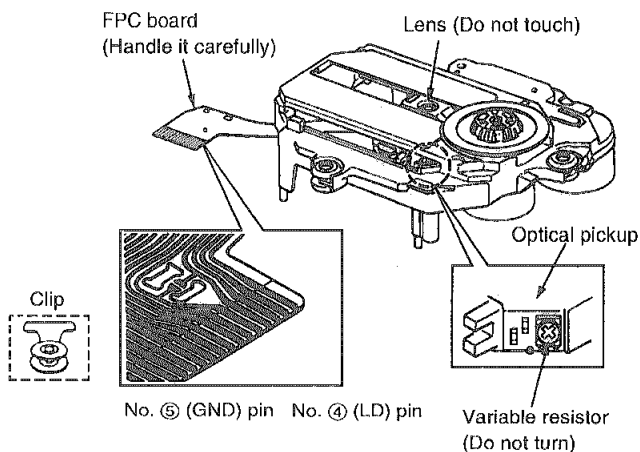

Fig. 4-1.
2. To protect the laser diode against electrostatic breakdown, short the flexible board (FPC board) with a clip or similar object. Refer to Fig. 4-1.
4. Do not turn the variable resistor (laser power adjustment). It has already been adjusted. Refer to Fig. 4-1.